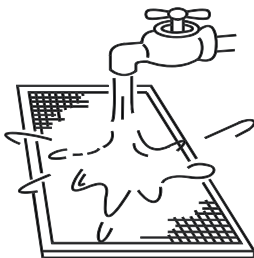

Figure 13.4
- b. The air intake side should face down when using clean water. (Refer to Fig.13.4)